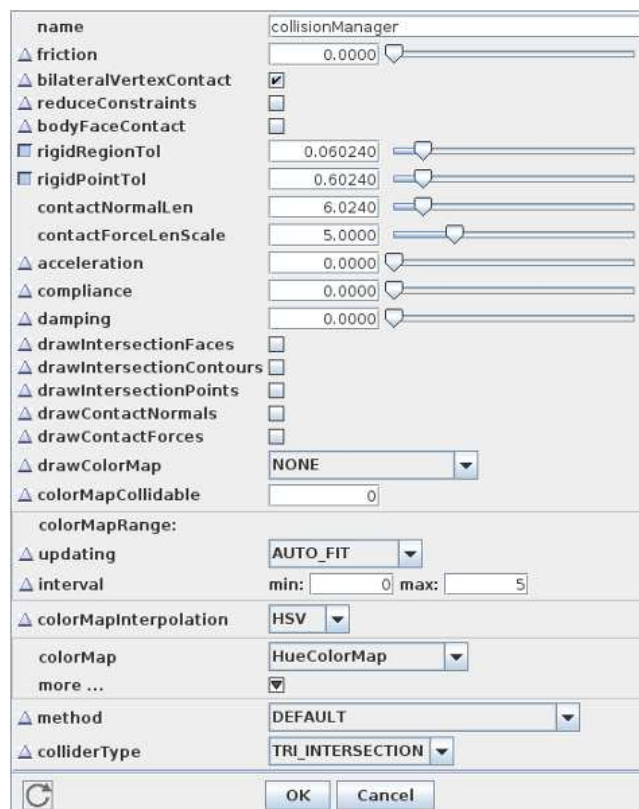

Figure 80: Property panel for the collision manager.
- More detailed collision control can be realized by selecting the `MechModel`’s collision manager in the navigation panel (Section 4.2). Choosing “Edit properties ...” or “Edit render props ...” from the right context menu then allows other properties to be set to control either the collision behavior or the rendering of collisions. A sample property panel is shown in Figure 80, and these properties are described in the “Collision Handling” section of the ArtiSynth Modeling Guide.